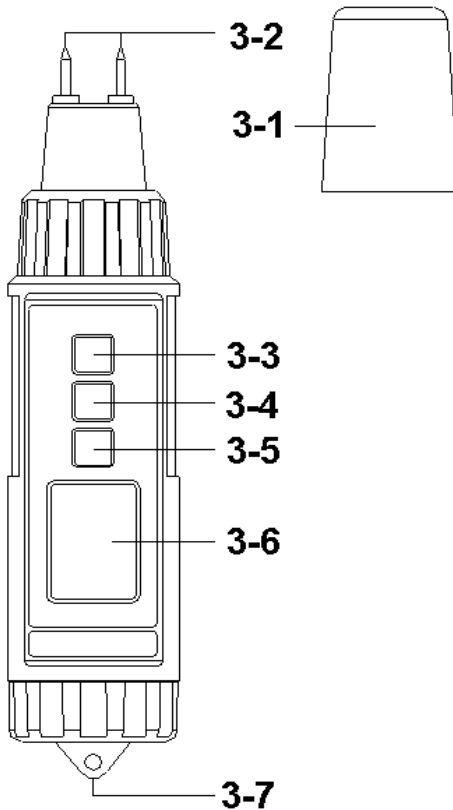

Fig. 1
1) Turn on the meter by pressing the " Power Button " ( 3-3, Fig. 1 ) momentarily.
*\* Press the " Power Button " ( 3-3, Fig. 1 ) momentarily again will turn off the meter.*
2) Remove the " Protection cover " ( 3-1, Fig. 1 ) away from the top head of the meter.
3) Press the " Material button " ( 3-5, Fig. 1 ) to select the desired testing material.
- \* During the measurement, press the " Hold Button " ( 3-4, Fig. 1 ) momentarily to hold the measured value. The LCD will show a " HOLD " symbol.
- \* To change the batteries, open ( rotate clockwise direction ) the " Battery Cover " ( 3-7, Fig. 1 ).
- \* Make sure the " Battery cover " (3-7, Fig 1) is secured after changing the batteries.